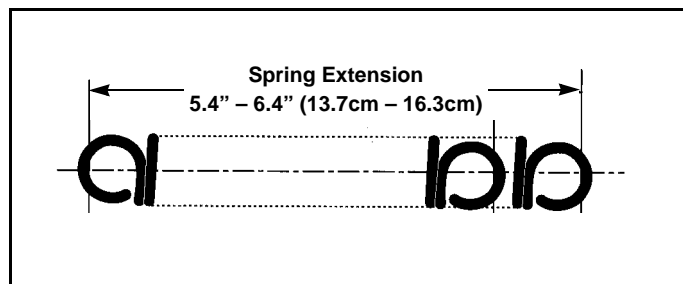

Figure 3-7
**To engage** the pump clutch, with H-Bar locked in neutral, release the chain from the latching slot. **NOTE:** When engaged the spring should be extended to a dimension of 5.4" – 6.4" (13.7cm – 16.3cm). Figure 3-7